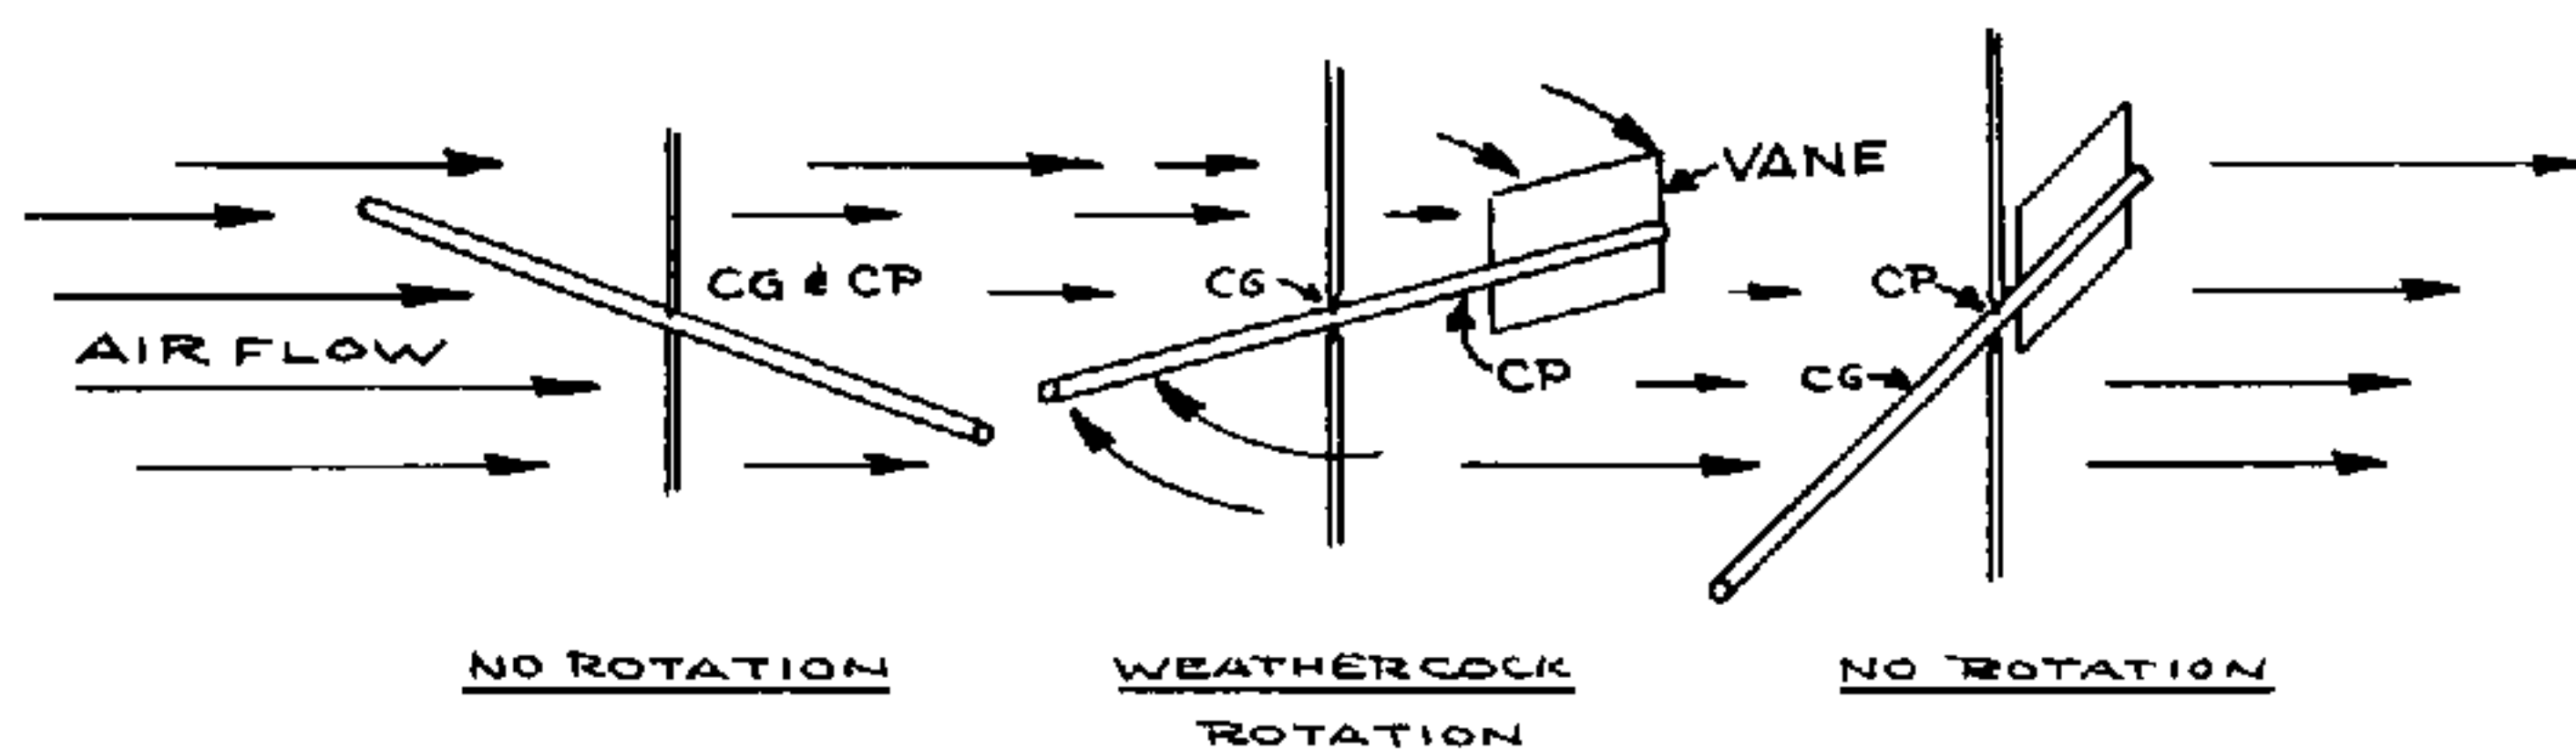

FIGURE 9-5 The stick-and-vane model under various conditions described in the text.
The function of the CP can be illustrated by another experiment with the stick or tube. If we grasp the stick at its balance point (CG) between a pair of pointed, low-friction pivots as shown in Figure 9-5, and hold it in the moving air from an air-conditioning duct (*not* from a fan because of the turbulence generated by a fan) or out of the window of a car traveling at about 20 miles per hour, we'll see that the stick doesn't rotate in the pivots due to any air pressure forces. No matter how we hold the stick in the airstream, it doesn't rotate. Obviously, there are no off-center or unbalanced forces to make it rotate, so the CG and the CP must be the same. We'd expect this because of the symmetrical shape of the stick.